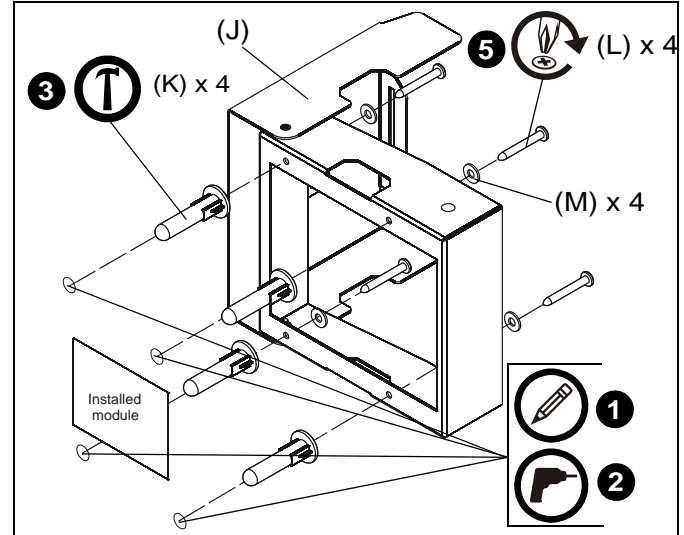

Figure 9
1. Using on wall security cover (J) as a template, mark four holes around the outside of installed electrical box.
3. Install four 1/4" alligator anchors (K) into four drilled holes.
4. Place on wall security cover (J) against wall lining up the holes on the back with the installed anchors (K). (See Figure 9)
5. Install four #10 x 1 3/4" Phillips screws (L) through #10 washers (M), holes in security cover (J) and into installed anchors (K). (See Figure 9)